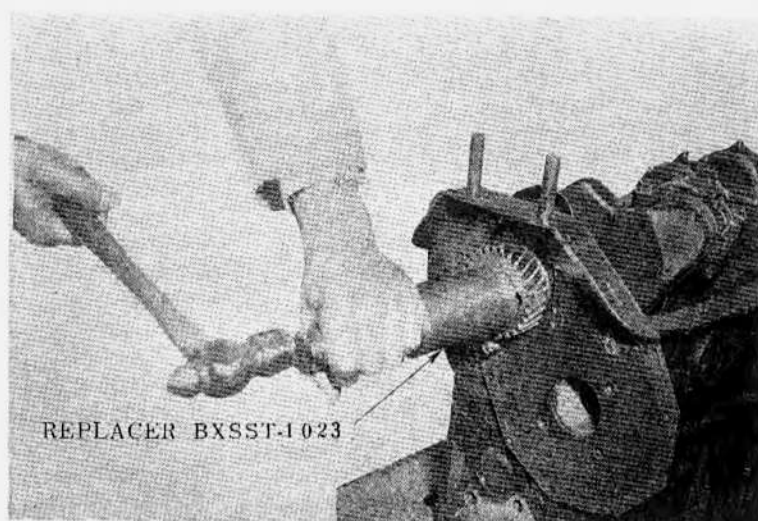

Figure 75 - Installing Crankshaft Gear
- (1) Place key in the keyway in crankshaft.
- (2) Place the crankshaft gear on the end of crankshaft with keyway in line with key.
- (3) Drive the gear onto the shaft, using replacer (BX SST-1023) until gear bottoms against shoulder on shaft (Fig. 75).